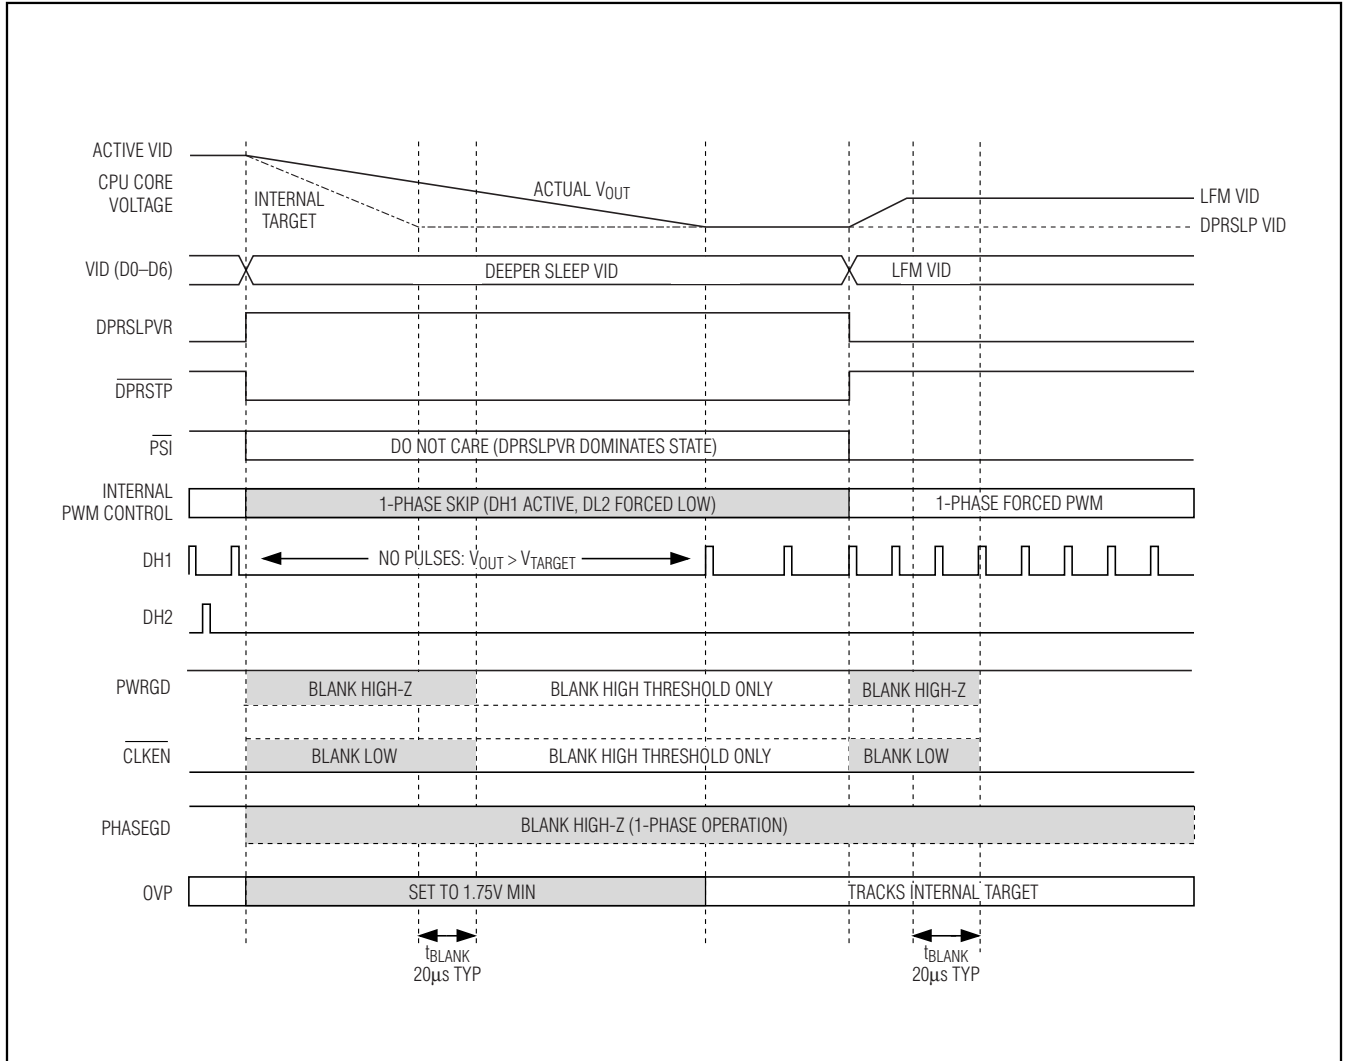

Figure 5. Standard C4 Transition
- Standard C4 Deeper Sleep Exit:** When exiting deeper sleep (DPRSLPVR pulled low) while the output voltage is regulating to the deeper sleep voltage, the MAX8770/MAX8771/MAX8772 immediately activate all enabled phases and ramp the output voltage to the LFM DAC code provided by the processor at the slew rate set by  $R_{TIME}$ . The controller blanks PWRGD, PHASEGD, and  $\overline{CLKEN}$  (forced high impedance) until  $20\mu s$  after the transition is completed. See Figure 5.